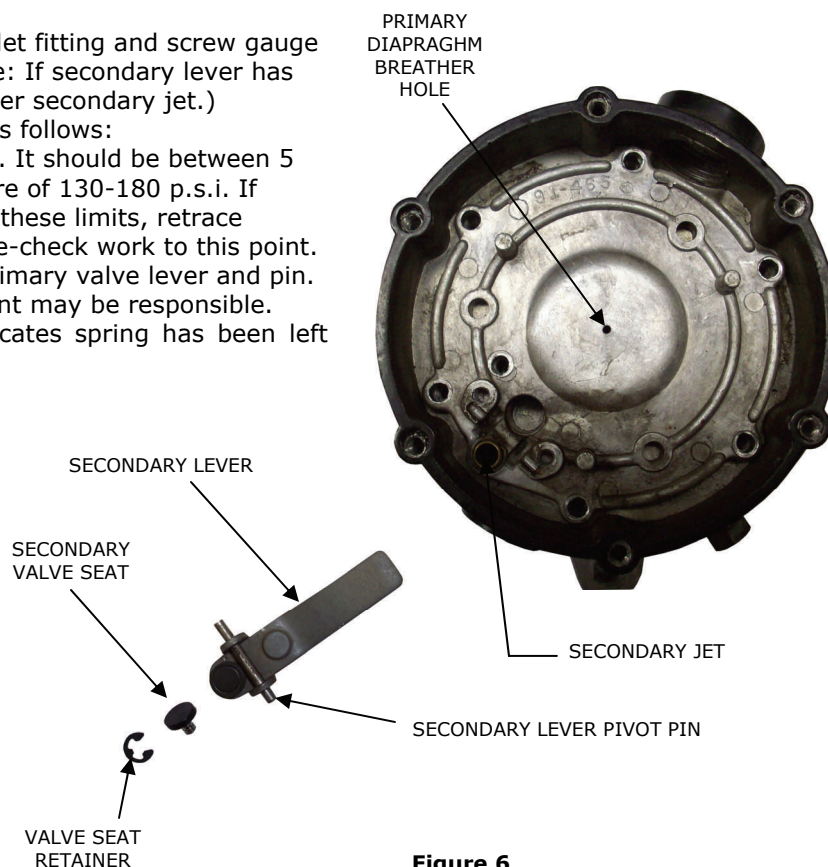

Figure 6
- e. Replace primary diaphragm cover using locating pins, and tighten six outer screws in 1-4, 5-2, 3-6 criss-cross sequence. Replace three inner screws and tighten. (Figure 6)
- a. Install new secondary valve seat assembly onto secondary lever. The secondary valve seat stem should fit freely in the lever hold. (Figure 6)